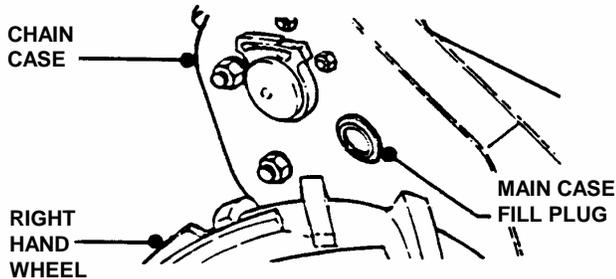

FIGURE 10
**3.3.2. ADD LUBRICATION TO CHAIN CASE:** To add grease, remove the filler plug located just forward of the pulley shaft on the right hand side. See Figure 10. Add Snapper Part No. 2-9577 Benalene 900 grease (4 oz. Bottle) as needed to bring level up to bottom edge of the check plug opening. The total capacity of the case is about 48 ounces. **DO NOT** exceed this amount. Reinstall check plugs after checking. **NOTE:** Also available Snapper Part No. 2-9296 Benalene 900 grease (32 oz. Bottle).